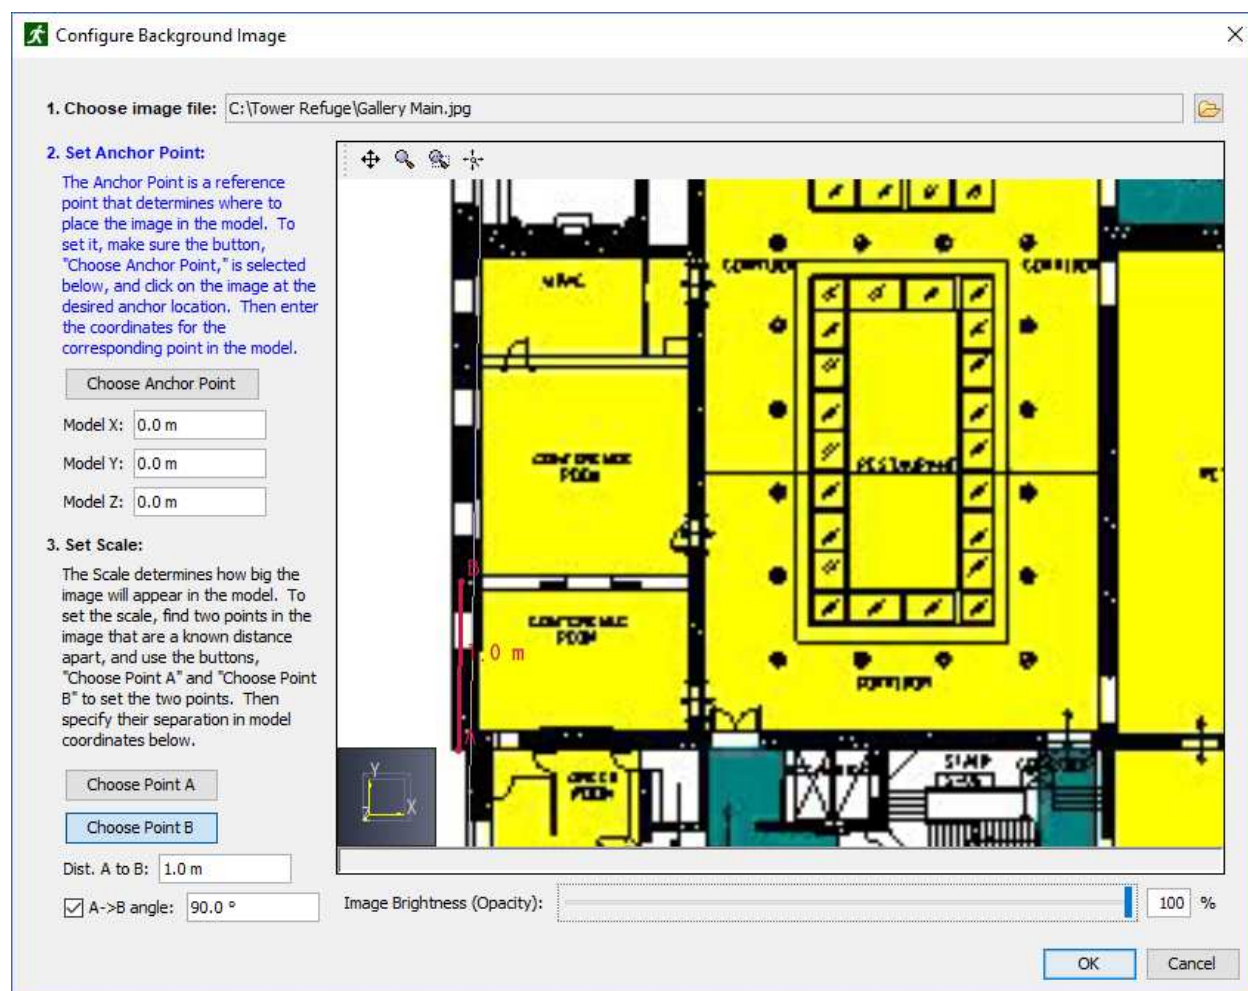

Figure 78. Set scaling points A and B
3. To specify the scaling for the image, two points, A and B, and a distance between them can be specified (Figure 78).